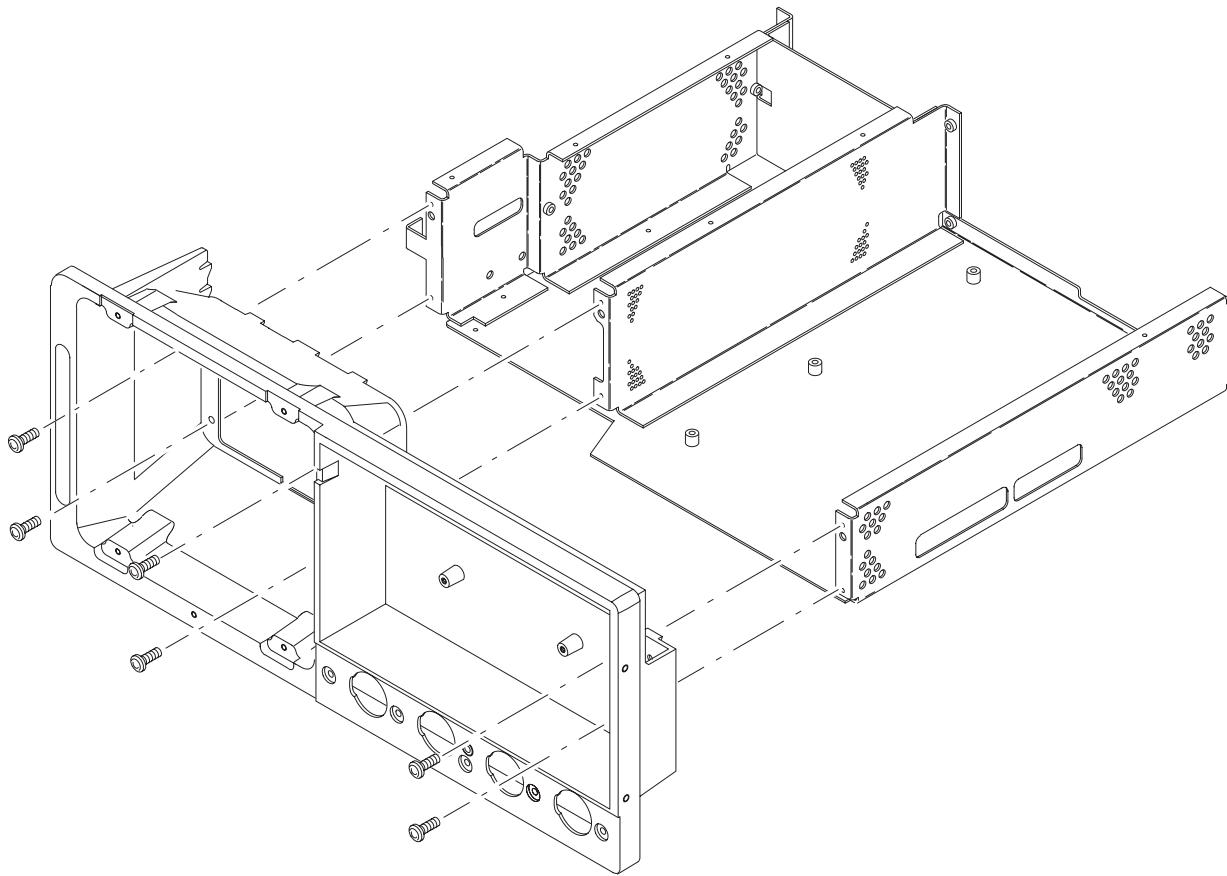

Figure 6-26: Front subpanel removal
- 3.** *Remove the front subpanel:* Remove the six screws securing the front subpanel to the main chassis. (See Figure 6-26 for screw locations.) Lift the front subpanel up away from the main chassis to complete the removal.
- a. Align the front subpanel to the main chassis, taking care to ensure that the main chassis slips into its alignment slot on the front subpanel (see magnified view, Figure 6-26.) Then reinstall the six screws removed in step 3.